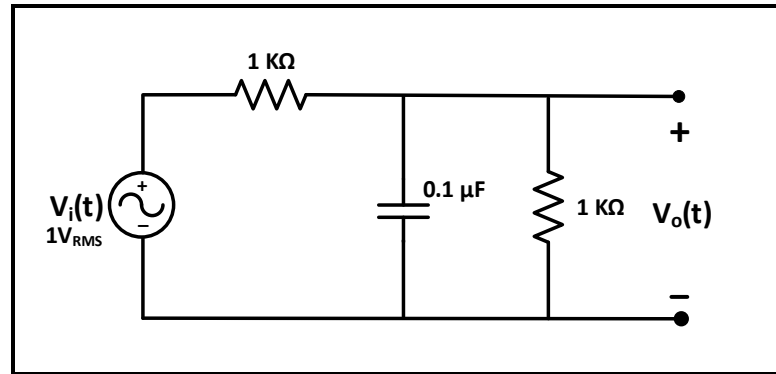

Figure 9.14
1. Connect the circuit of Figure 9.14, with a sinusoidal input voltage at 1 V_{RMS}.
3. Repeat steps (3-4) in part A for the circuit of figure 9.14 but change frequency according to Table 9.2 staying in the range (30 Hz-200 kHz), and record results in the same table.